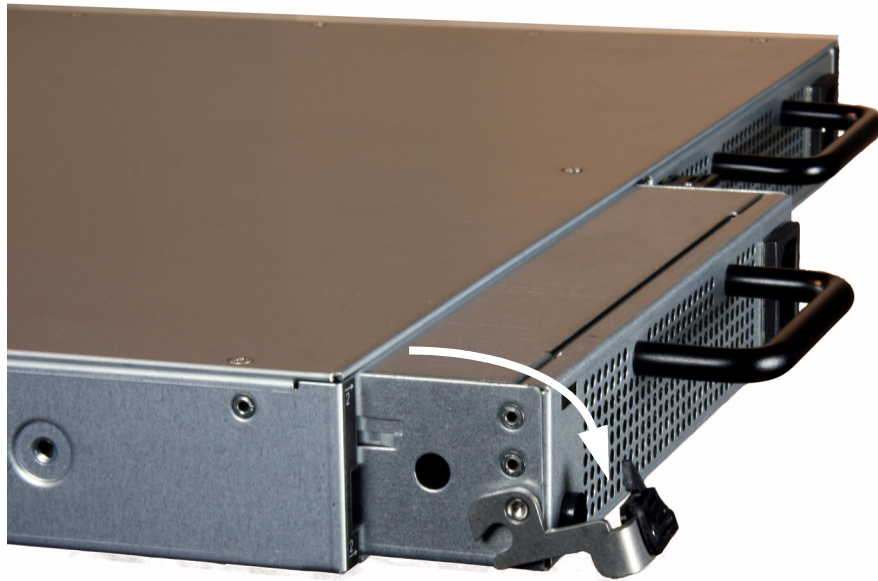

**Figure 6-7 Unlatching Lever on New PCM**
1. Before you insert the new PCM into the chassis, unlatch the lever on the new PCM (see Figure 6-7.)